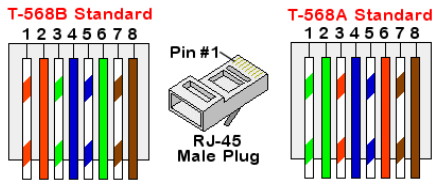

Figure 34: Standard cable wiring
- c. Insert the eight wires into an RJ45 connector, as described in Figure 34
7. For the switch/router side, use a pre-terminated cable or use a crimper to prepare an RJ45 communication connector: Insert the eight wires into the RJ45 connector in the same order as above (Figure 34).